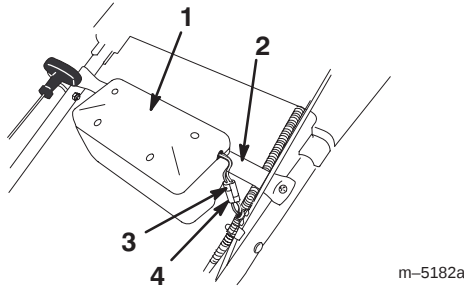

Figure 5
2. Align the pins in the battery case with the holes in the battery bar, and lower the pins into the holes until the battery case snaps into place (Fig. 5).
3. Connect the wire lead from the battery to the wire lead from the electrical wire harness in the corrugated tube (Fig. 5).